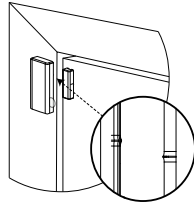

Figure 3: Device and magnet position on door and door frame
2. Place the device on the frame of a window or door and place the magnet on the moving surface of the door or window itself, directed according to the location marks. See Figure 3.
3. Screw the magnet base on to the door, aligning it with the line on the device. See Figure 3.